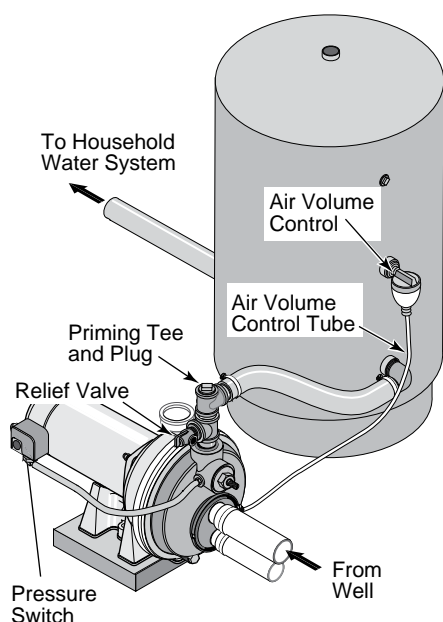

Figure 13: Standard Tank Connections
Standard Tank Connection (Figure 13)
4. Remove the 1/8" NPT pipe plug from the pump Air Volume Control (AVC) port (see Figure 13). Run tubing from the pump's AVC port to the port on the AVC mounted on the tank. See instructions provided with tank and AVC for details.